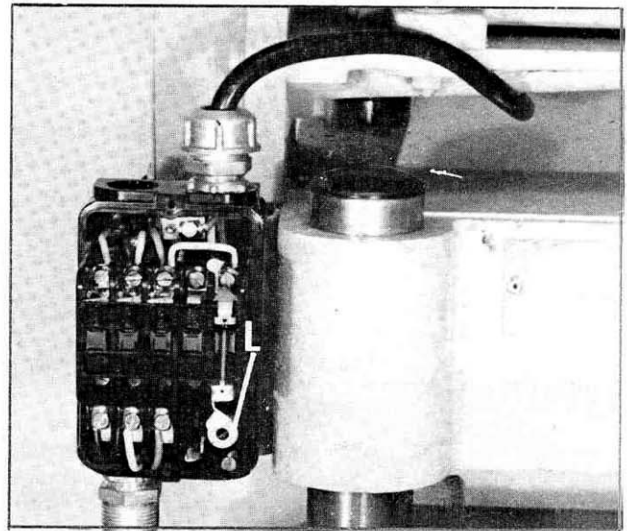

Fig. 35
9. For 440 Volt operation, the amp setting dial (L) Fig. 35, should be set at 5.0. For 220 Volt operation, the amp setting dial (L) should be set at 9.0.